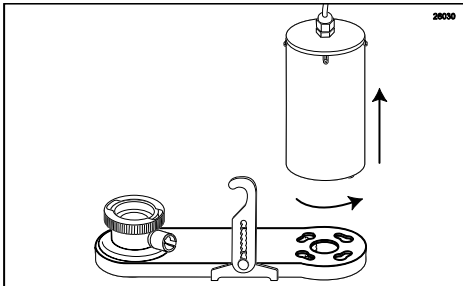

Figure 26
- Rotate the Drive Motor to unlock and remove the Drive Motor from the Drive Assembly Gear Box. (See Figure 26.)